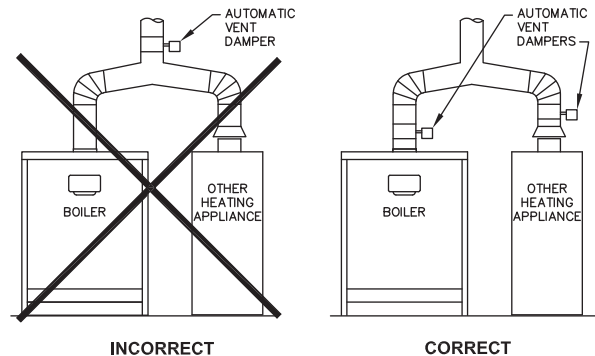

Figure 3.1: Venting Multiple Appliances
1. Do not use one vent damper to control two or more heating appliances. See Figure 3.1.